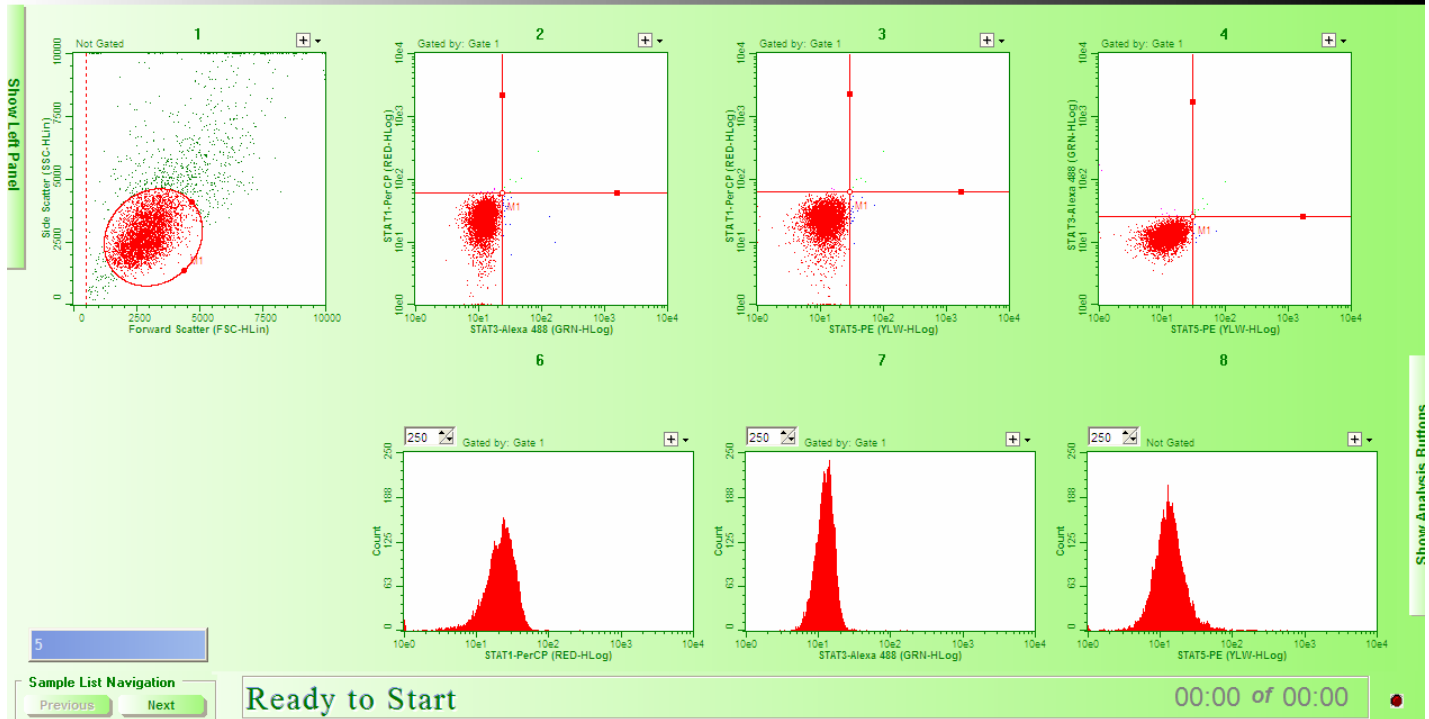

Figure 2. Three color stain of untreated U937 cells showing proper gating and voltage settings.
3. Adjust the red fluorescence parameter: Adjust the red voltage until most of the cells fall in the lower left hand Quadrant on the dot plots. Use histogram plots as a guide to determine the number of cells falling on the axis. Increase PMTs until the cells collecting at the axis are at a minimum. Repeat for the Green and Yellow voltages as well. See **Fig. 2** for example plots.